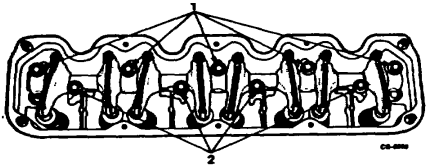

Figure 27. Removing Rocker Arm Shaft Assembly
4. Remove five rocker arm shaft assembly mounting bolts and flat washers, remove four cylinder head extension bolts and flat washers, remove rocker arm shaft assembly (Figure 27).